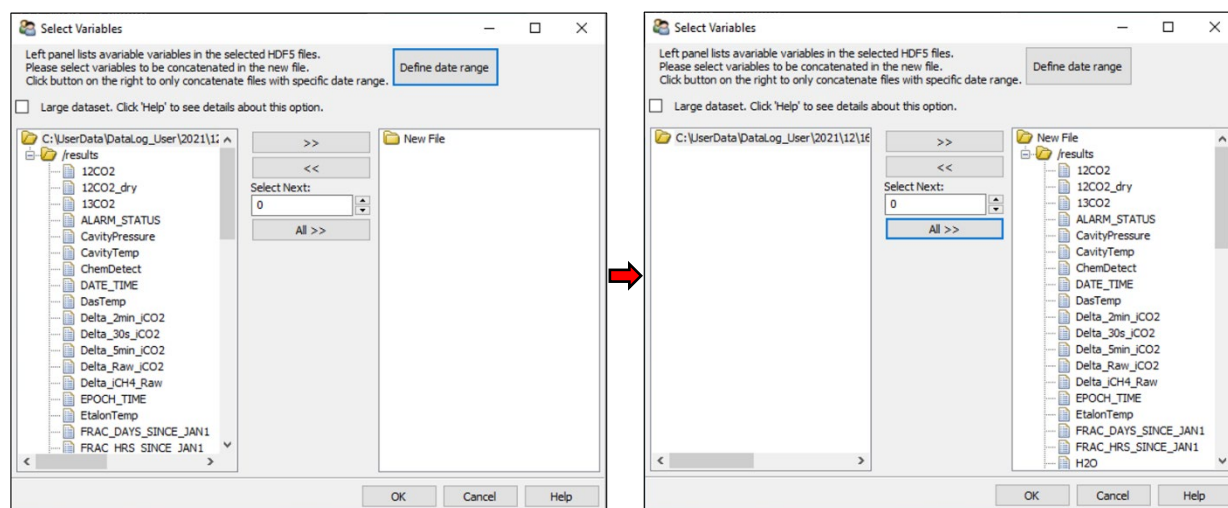

Figure 60: Selecting Variables for Concatenation
3. From **File** menu select **Concatenate H5 Files (C)** to combine the H5 files into a time series. Take care to select exactly the same folder in the file viewer window.
4. In the Select Variables window, click **All** to move over all variables for concatenation. If concatenating very long records, the user can instead select only a few variables by clicking the variable name on the left dialogue, and clicking the double arrow button. Confirm by clicking **OK**. (Figure 60).